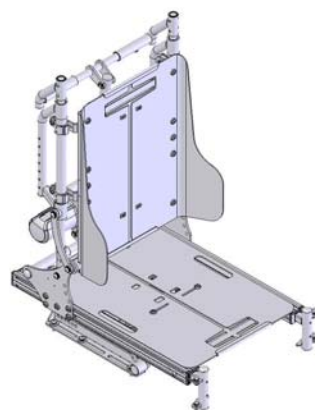

Figure 5-85
5.3.5.16 KISS Seat with recline option is shown as Figure 5-85